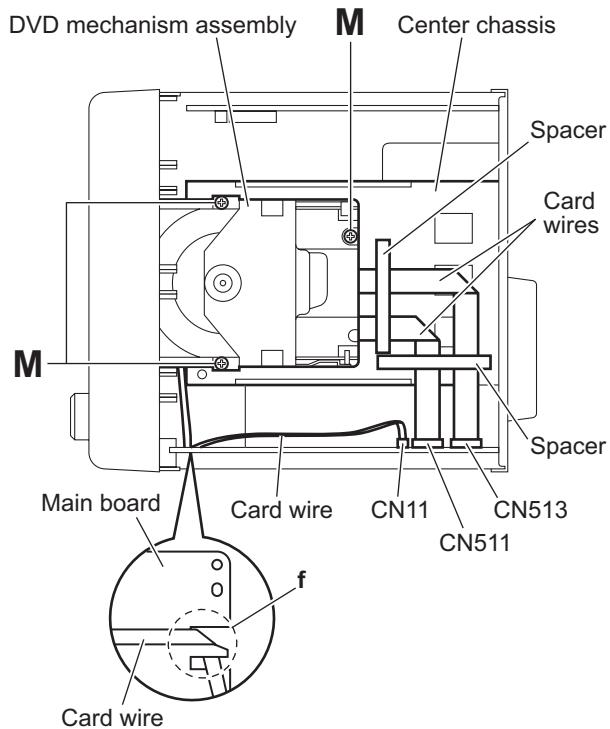

Fig.12
(See Figs.12 and 13)
- (1) From the top side of the main body, remove the three screws **M** attaching the DVD mechanism assembly on the center chassis. (See Fig.12.)
- (2) From the forward side of the main board, disconnect the card wires from the connectors (CN11, CN511, CN513). (See Fig.12.)
When reassembly, pass the card wire through the section **f** of the main board before connecting the card wire to the connector CN11. (See Fig.12.)
- (3) Remove the spacers fixing the card wires. (See Fig.12.)
After connecting the card wires, fix them with the spacers as before. (See Fig.12.)